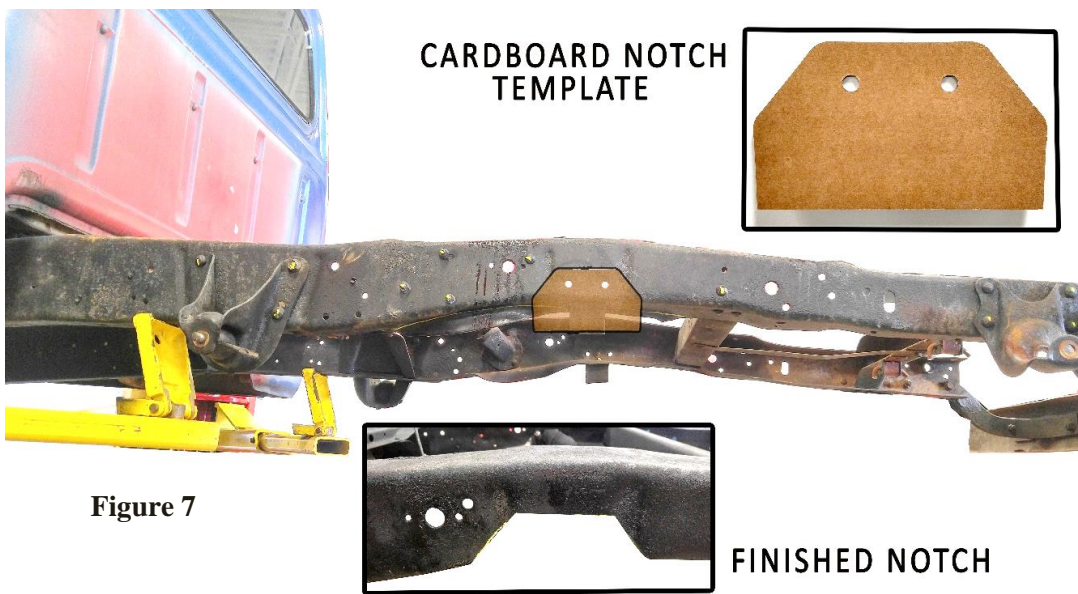

Figure 7
9. Line up the two existing frame holes with the two holes in the notch template that is included with your suspension system. The lower portion of the template will fold under the frame rail. Mark and cut the notch into the frame. This template is symmetrical and can be used on both sides of the truck. **(Figure 7)**